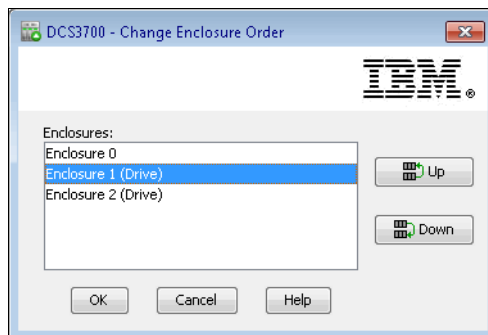

Figure 9-7 Change Enclosure Order
- ▶ **Hardware View Order:** Use this option to change the order of the controller enclosures and the drive expansion units in the Physical pane to match the hardware configuration in your storage subsystem (Figure 9-7).